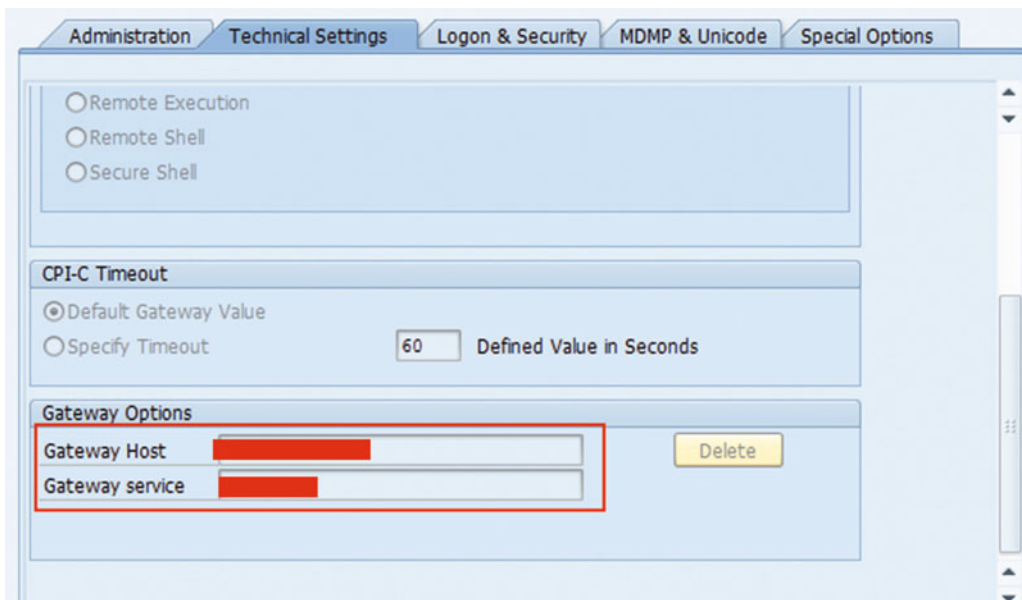

Figure 3-62. Create RFC destination: technical settings
5. On the Technical Settings tab of the RFC Destination screen, enter the following data (refer to Figure 3-62).